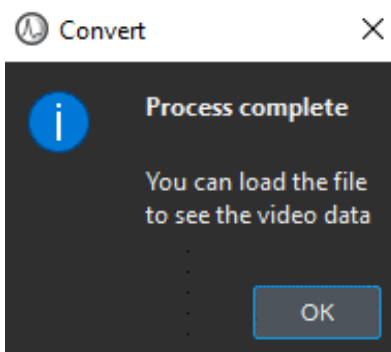

Figure 13.14: *Convert Microscope Images, Process Complete Pop-up*
7. The **Convert** button initiates the conversion process. A **Process Complete** pop-up window (Fig. 13.14) will be displayed if the conversion is successful. To view the file in the **File Manager** you must first load it (See Section 13.2).